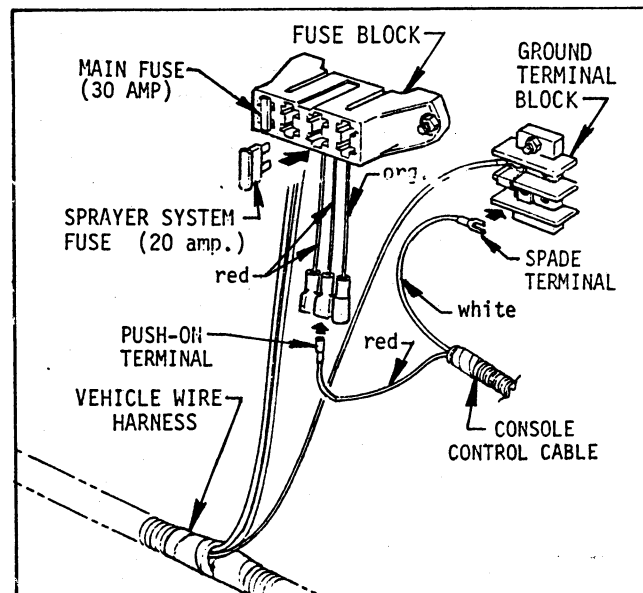

FIG. 4
■ Measure carefully and determine the length of white wire necessary to reach the Ground Terminal Block. Cut off the excess wire and crimp the spade terminal onto the stripped end. Connect the spade terminal to the Ground Terminal Block as shown in FIG. 4.
■ Measure carefully and determine the length of red wire necessary to reach the Fuse Block. Cut off the excess wire and crimp the push-on terminal onto the stripped end. Connect the push-on terminal to the male terminal on the red wire at the Fuse Block, as shown in FIG. 4.
■ Insert the 20-amp Fuse into the Fuse Block receptacle as shown in FIG. 4.